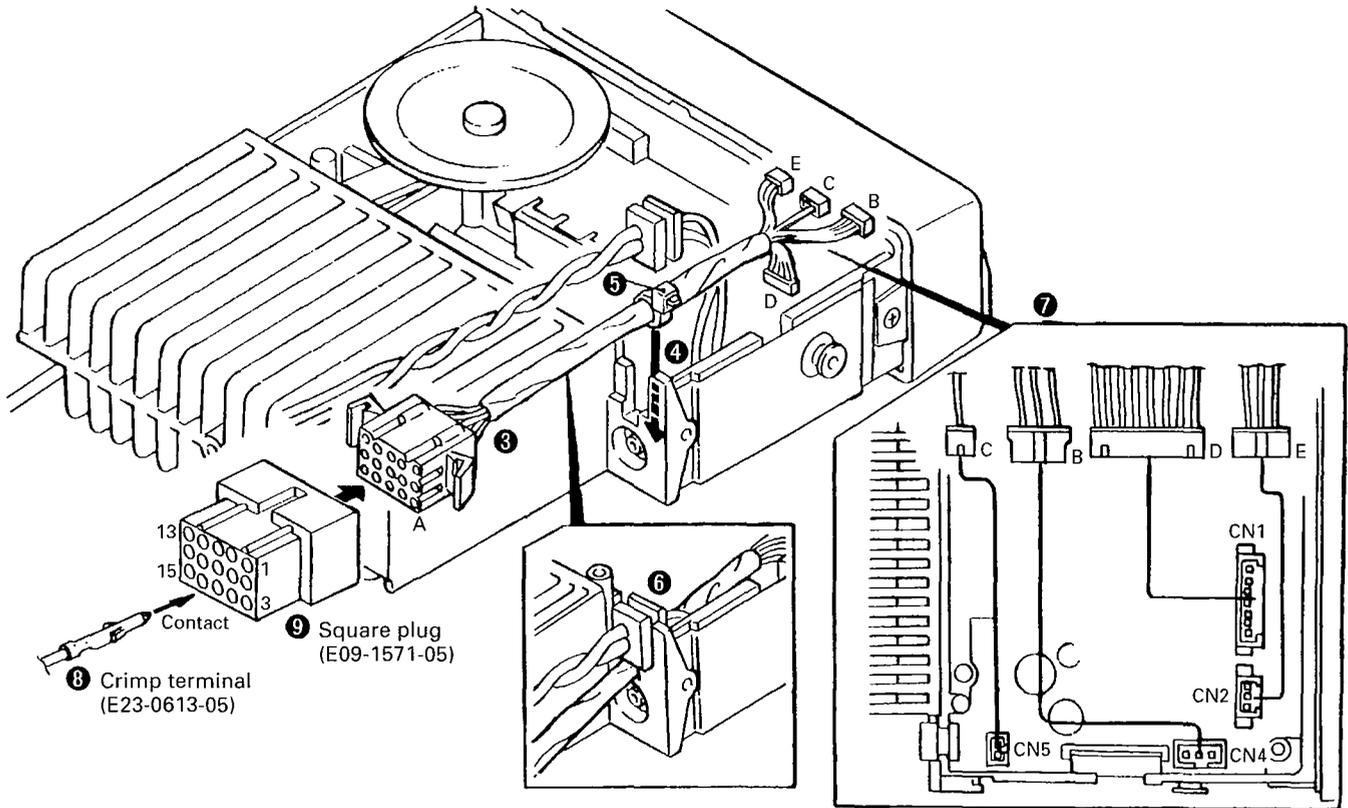

Fig. 2
5. Connect the KCT-19 to the TX-RX unit (A/2) as shown in Figure 2 ( **7** ).